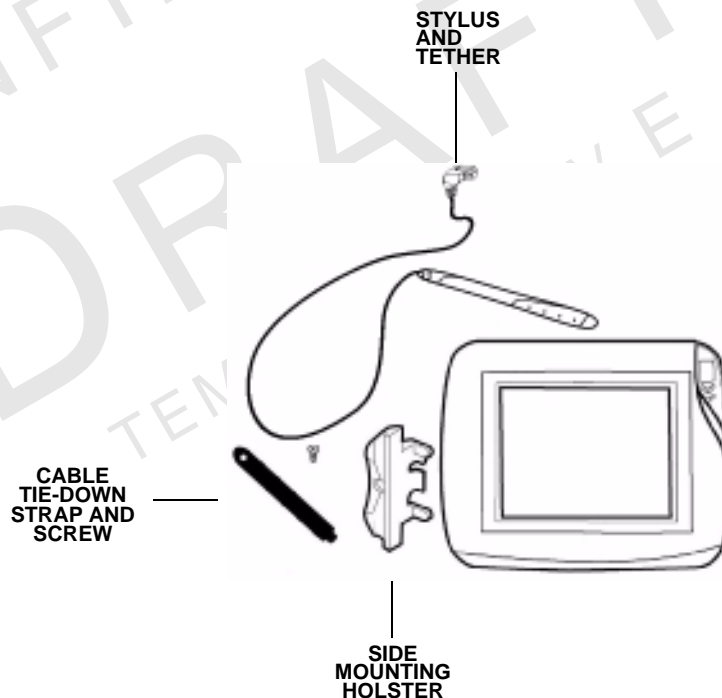

Figure 2 Example of Terminal Product Components
- Inspect the shipping carton and contents for shipping damage (Figure 2). If the M^x800 Series series terminal or any other component appears damaged, immediately file a claim with the shipping company and notify your terminal provider.